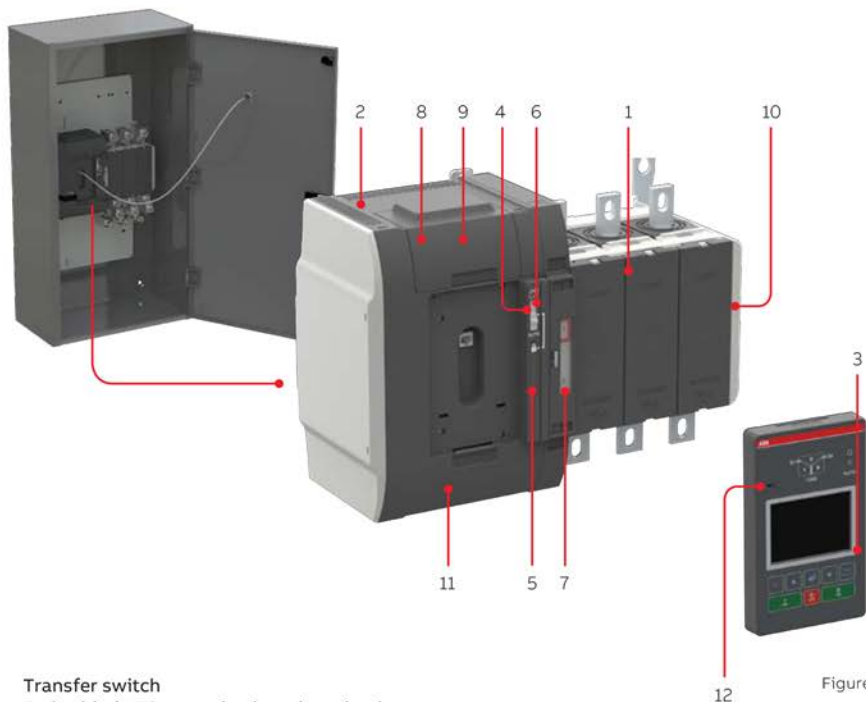
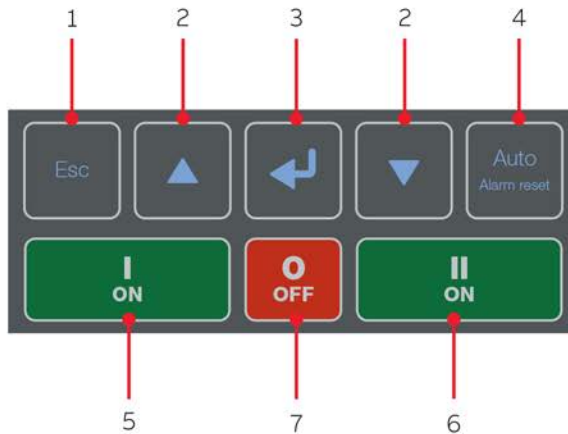

Figure 1
Figure 4
The TruONE Level 3 power panel integrates switch, mechanism, controller, power supply, HMI, and all connectivity accessories into one seamless unit. The construction of this transfer switch is outlined in Figure 1.
2. Confirm rating label matches the installed application. For location see Figure 1, number 12.
5. Confirm that control wiring for engine start is properly terminated to the engine start contact (located in Figure 1, number 8).
7. Flip slide switch (Figure 1, number 4) to AUTO
* Slide switch (Figure 1, number 4) must be in Auto, and controller mode (Figure 4, number 4) must be in Manual.